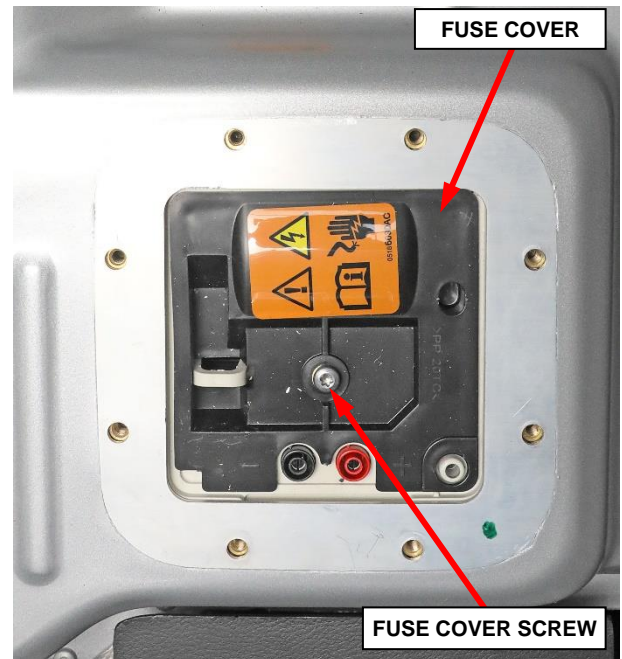

Figure 7 – Fuse Cover
- If the voltage is greater than 60 volts, an internal condition exists within the high voltage battery such as stuck contactors, that are preventing it from being powered down. This should be accompanied by contactor stuck DTCs. Do not attempt to carry out testing on any of the vehicle's high-voltage components or wiring. The HV Battery Pack requires replacement. Reference the HV BATTERY SERVICING WITH WELDED CONTACTOR(S) procedure at the top of the HV PHEV BATTERY REMOVAL AND INSTALLATION procedure for safely removing a high voltage battery that will not power down (Refer to 08 - Electrical/Battery System/BATTERY/Removal and Installation).
1. Remove the fuse cover screw then remove the fuse cover (Figure 7).
11. Install the fuse cover then tighten the cover screw to 6 N·m (53 in. lbs.) (Figure 7).